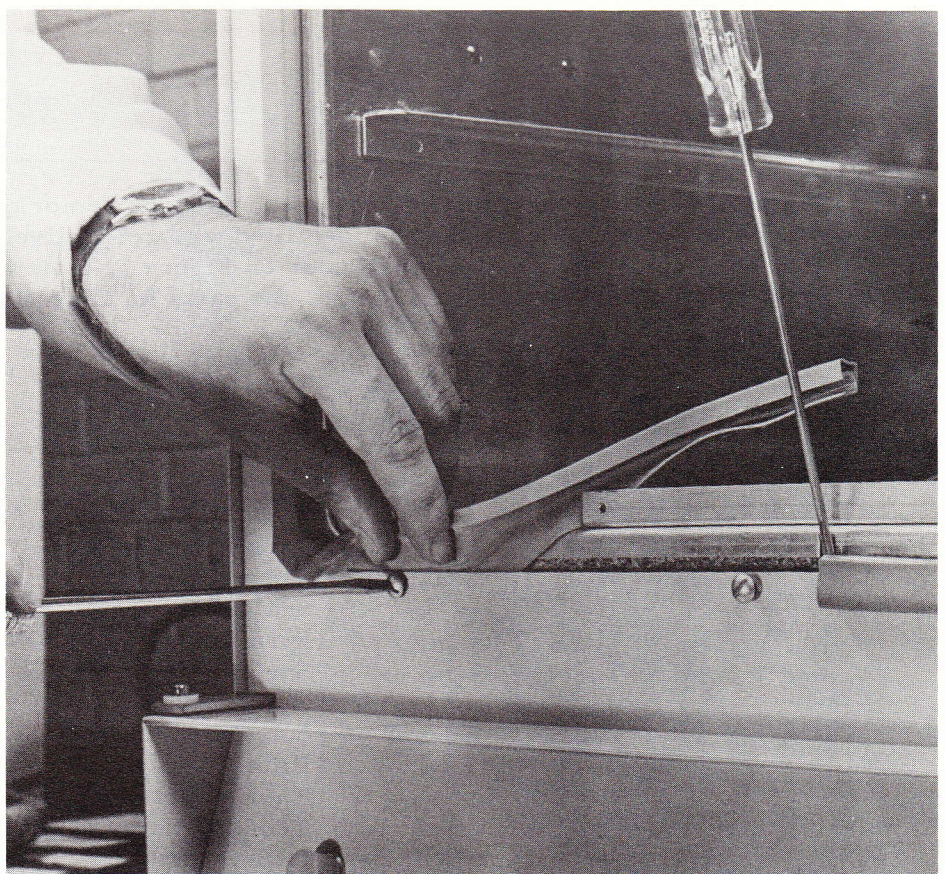

FIGURE 2-INSTALLATION OF DOOR SEAL
4. Door Seal (see Figure 2): To remove the door seal, remove the door as described in the preceding paragraph. Then, loosen the 13 screws beneath the seal, and pull the used seal out.